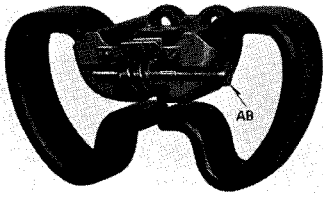

FIG. 6—RB PERMANENT MAGNET ASSEMBLY
Turn screw (AB) Fig. 6, in a counter clockwise direction to increase meter speed. Turn screw in a clockwise direction to decrease meter speed.